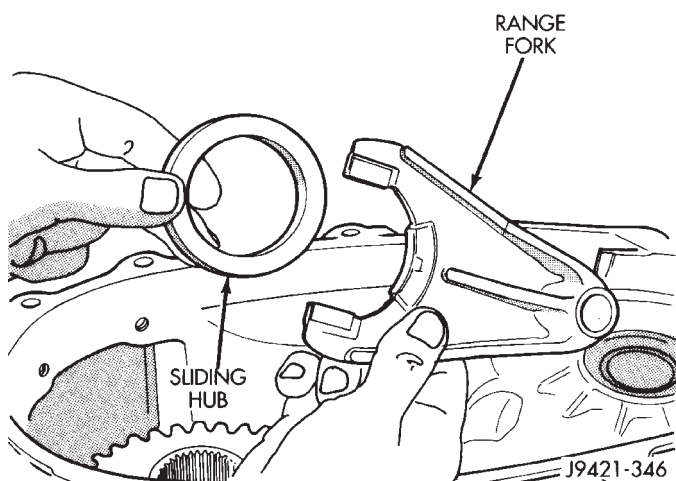
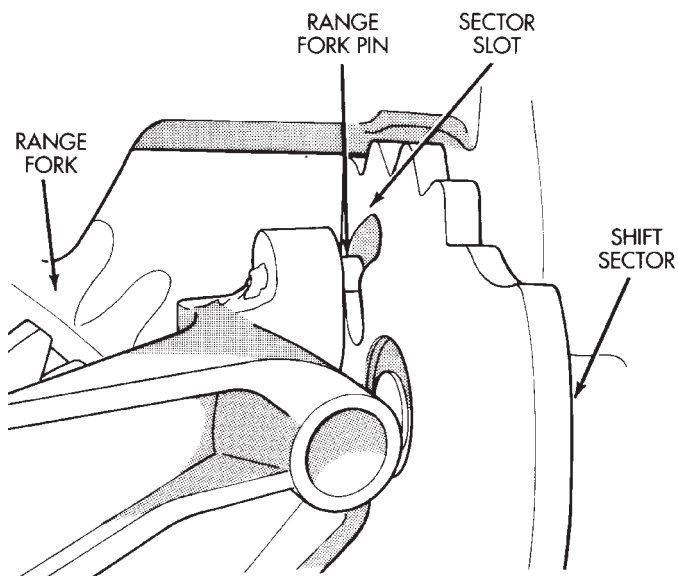

Fig. 79 Assembling Range Fork And Sliding Hub
Fig. 80 Seating Range Fork And Hub
(4) Assemble range fork and synchro clutch and hub (Fig. 79). Then install fork and hub in case. Seat hub on support sleeve and seat range fork pin in shift sector slot (Fig. 80).